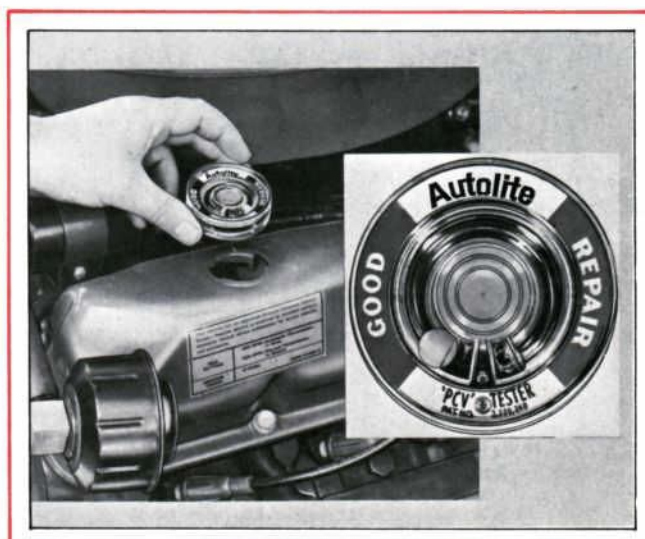

Figure 4—PCV Valve Test
3. With the engine running at idle speed, place a PCV tester over the oil fill hole or tube. See Figure 4.